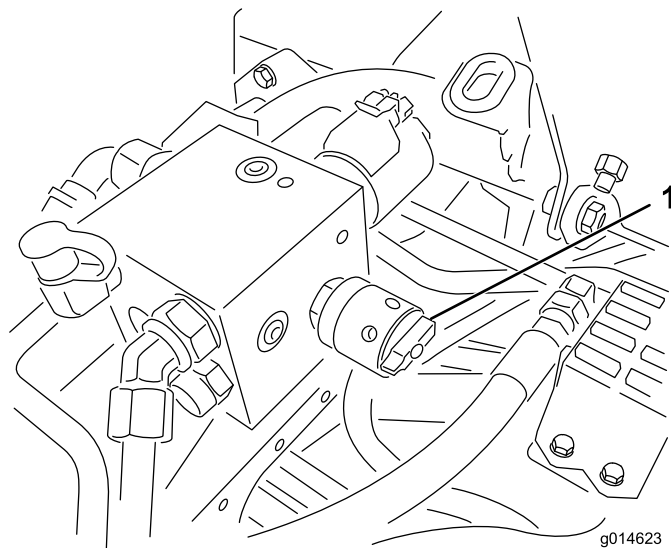

Figure 54
**Important:** If the backlap lever is not returned to the forward (F) position after backlapping, the cutting units will not raise or function properly.
6. Rotate the Reel Speed Control to setting 1 (Figure 54).